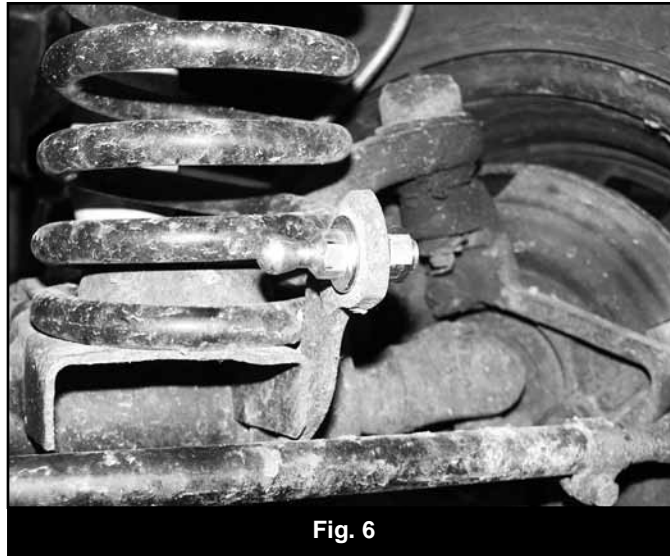

Fig. 6
32. Install the new lower ball stud to the OE sway bar link axle mount with a 1/2" nut and two 1/2" SAE washers provided in pack 718. The washers mount on each side of the OE mount. The ball mounts toward the inside of the vehicle (Fig 6). Torque the stud to 60 ft-lbs.